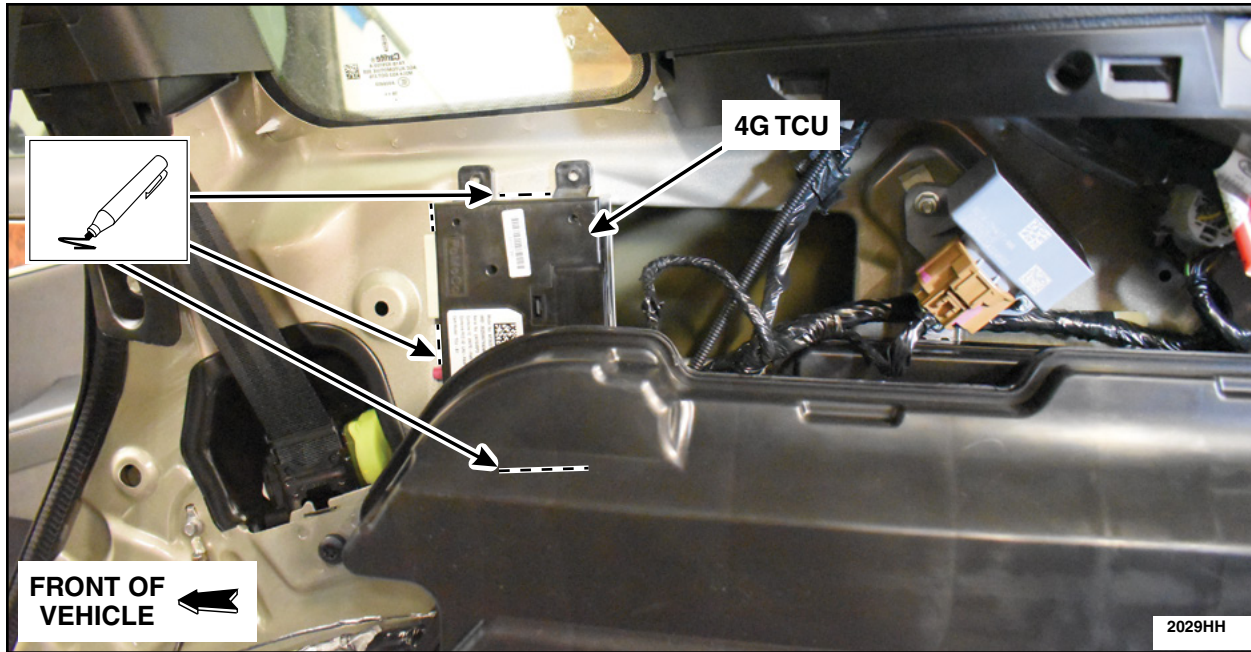

FIGURE 6
7. Temporarily place the 4G TCU in the position shown. Using a marker, mark the edges of the TCU onto the sheet metal of the vehicle. See Figure 6. Remove the TCU from the vehicle and place it on a bench metal side up.